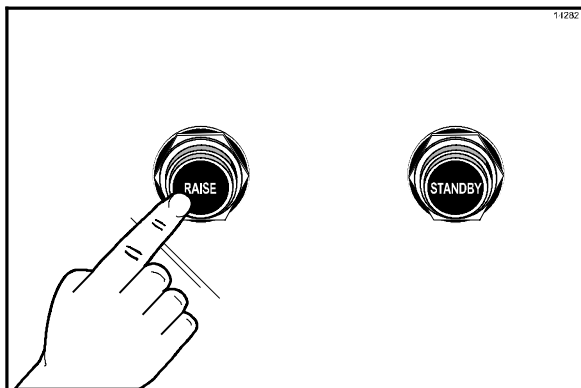

Figure 36
1. Raise the upper platen to the OPEN position by pressing the red RAISE key. (See Figure 36.)